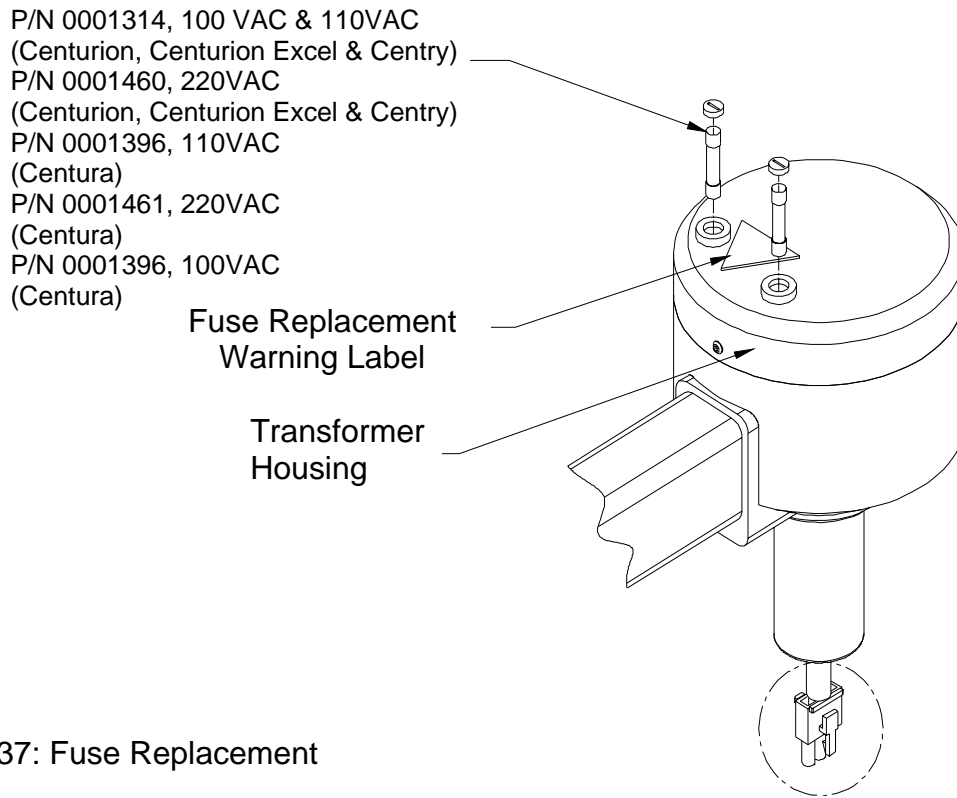

FIGURE 37: Fuse Replacement
- See figures 37 and 38 for fuse location.